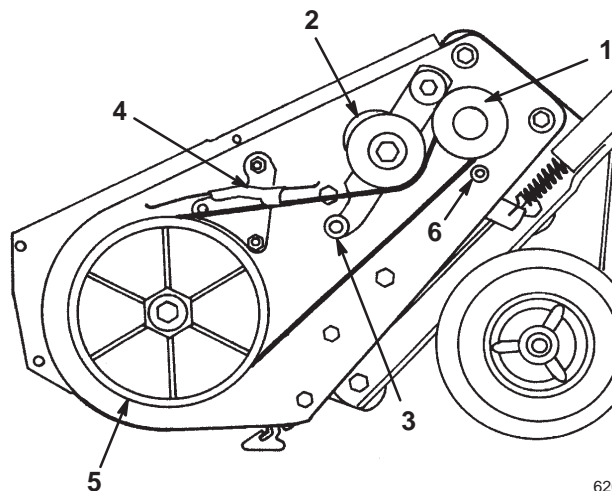

Figure 27
5. Pull up on the idler pulley and remove the old drive belt from the rotor pulley, the brake arm assembly, and the engine pulley (Fig. 27).
6. Loop the new drive belt around the engine pulley, under the idler pulley, over the roller, through the brake assembly, and around the rotor pulley (Fig. 27).
Important The drive belt must be on top of the roller as shown in Figure 27.